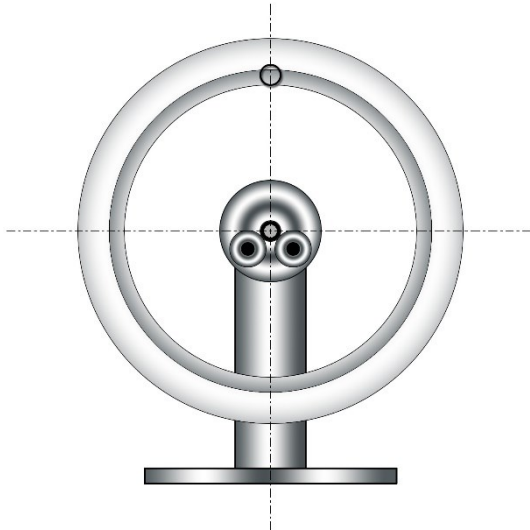

Figure 1 Resting rim without tire
Abb./Afb./Avb./Fig. 1
3. When the rim has come to rest, the lightest point is at the top (see Fig. 1).
4. For the further work, it is useful to mark the lightest point (point on fig. 1 above). For this, you can use oil chalk or a piece of adhesive tape.